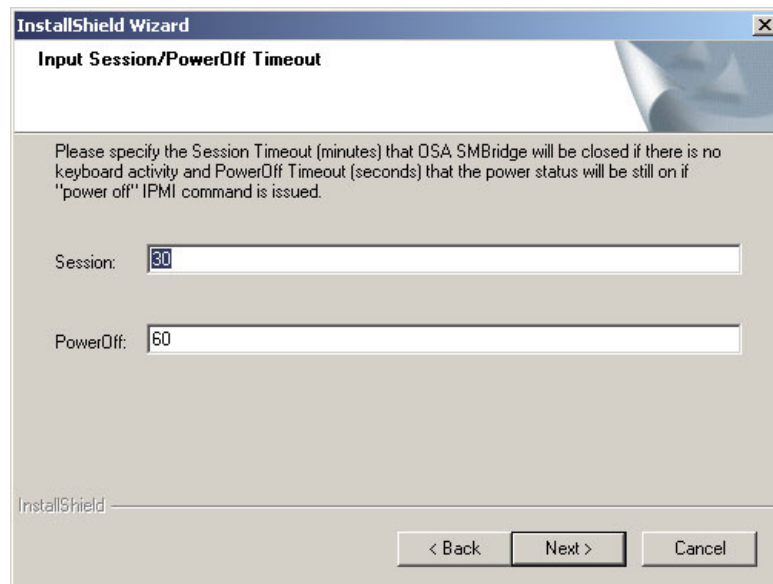

Figure 5-24 Session and power off timeout settings window
3. Next, you are asked to specify timeout values for telnet sessions (in minutes) and the power-off command (in seconds) (Figure 5-24).